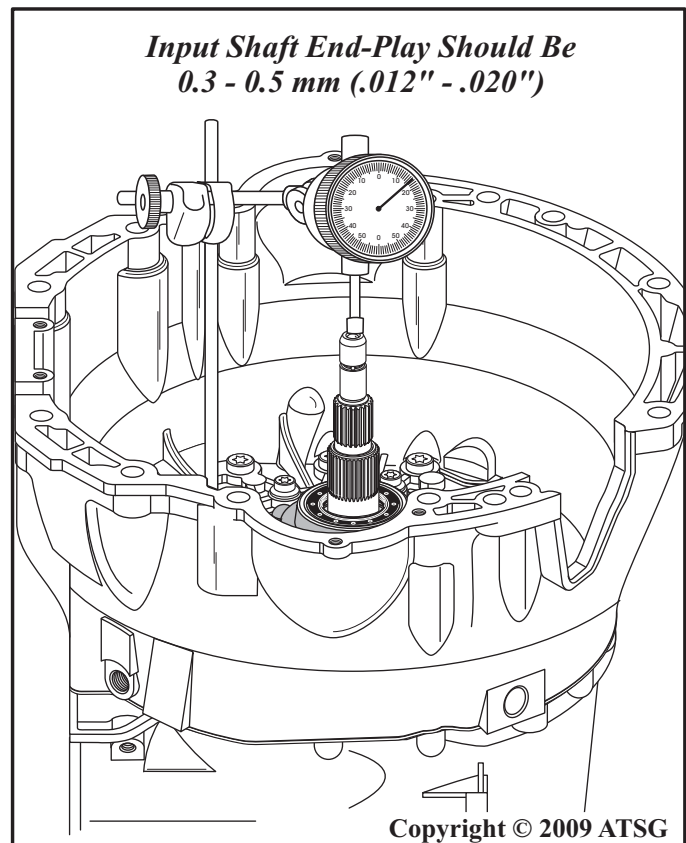

Figure 193
39. Rotate transmission, install dial indicator and verify transmission the end-play, as shown in Figure 193.